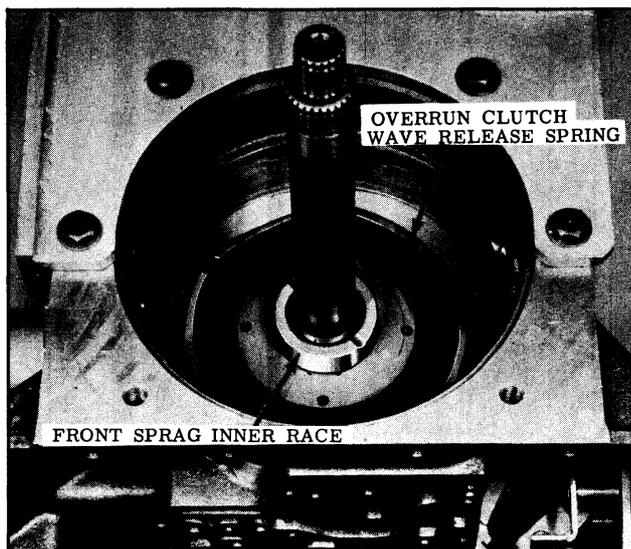

Fig. 3-143 Front Sprag Inner Race
washer. Center the race around the intermediate shaft. (See Fig. 3-143)
6. Install the overrun clutch wave release spring. (See Fig. 3-143)